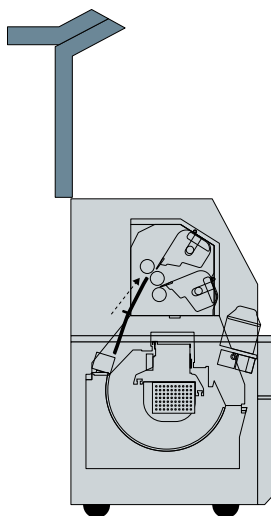

Figure 5.9 The Avantra 36/44 imagesetter with the top cover open.
2. Raise the top cover. See Figure 5.9.